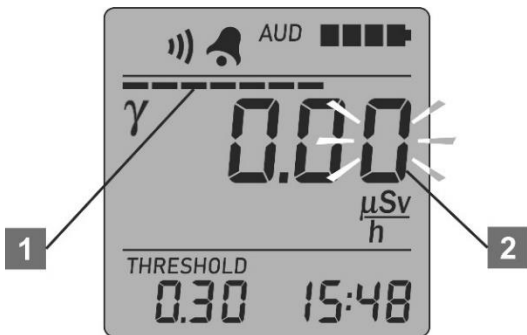

Figure 7 – LCD of the dosimeter
If you keep holding the THRESHOLD button, then during the next two seconds the dosimeter will proceed to the submode of programming new values of the alarm threshold level and specified statistical error, and switching on/off audio signaling of detected gamma quanta (Figure 7). A stripe (1) “moving” across the instantaneous value indicator and blinking of the low-order digit (2) of a new threshold level serve as an indication of this submode. Then release the THRESHOLD button.